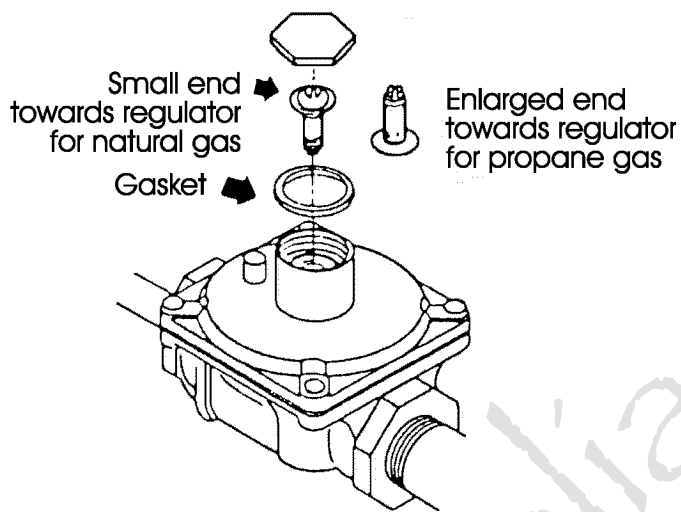

Figure 1
- Turn the plunger with the enlarged end down for LP/Propane gas use (See Figure 1).